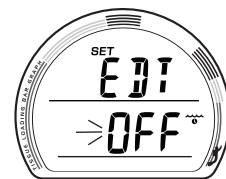

Fig. 110 - SET EDT ALARM
**SET EDT ALARM**, information is to include (Fig. 110):